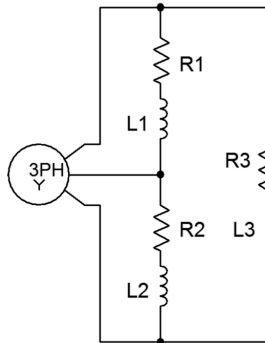

Figure 9.7
13. The 3-phase system of Figure 9.7 uses a Y connected generator feeding a Δ connected load. The load consists of 3 legs of $40\ \Omega$ in series with $j30\ \Omega$ of inductive reactance, as shown in Figure 9.7. If the generator phase voltage is 230 volts, find the line voltage, the voltage across each load leg, the line current, the load current, and the apparent and real powers drawn by the load.
14. Given the wye-delta system of Figure 9.7, if the line voltage is 400 volts and the load is balanced with each leg at $80 + j20\ \Omega$, determine the generator phase voltage, line current, generator phase current, load current, the voltage across each load leg, and the total real and apparent load powers.